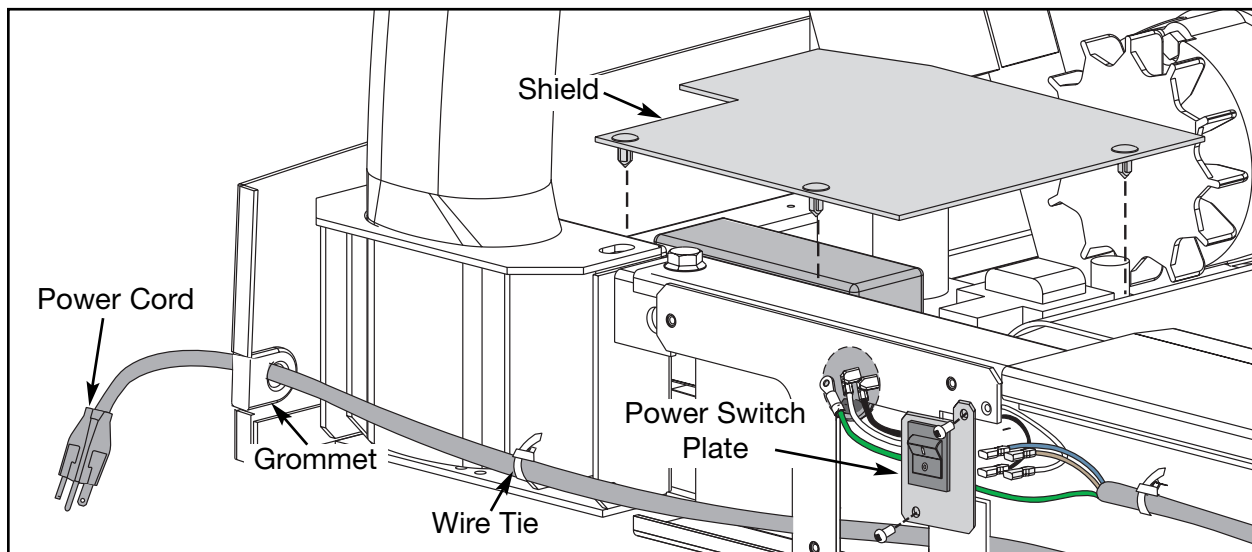

Figure 22
- A.** Remove the old power cord and discard the power cord (and power switch if applicable). See Figure 22.